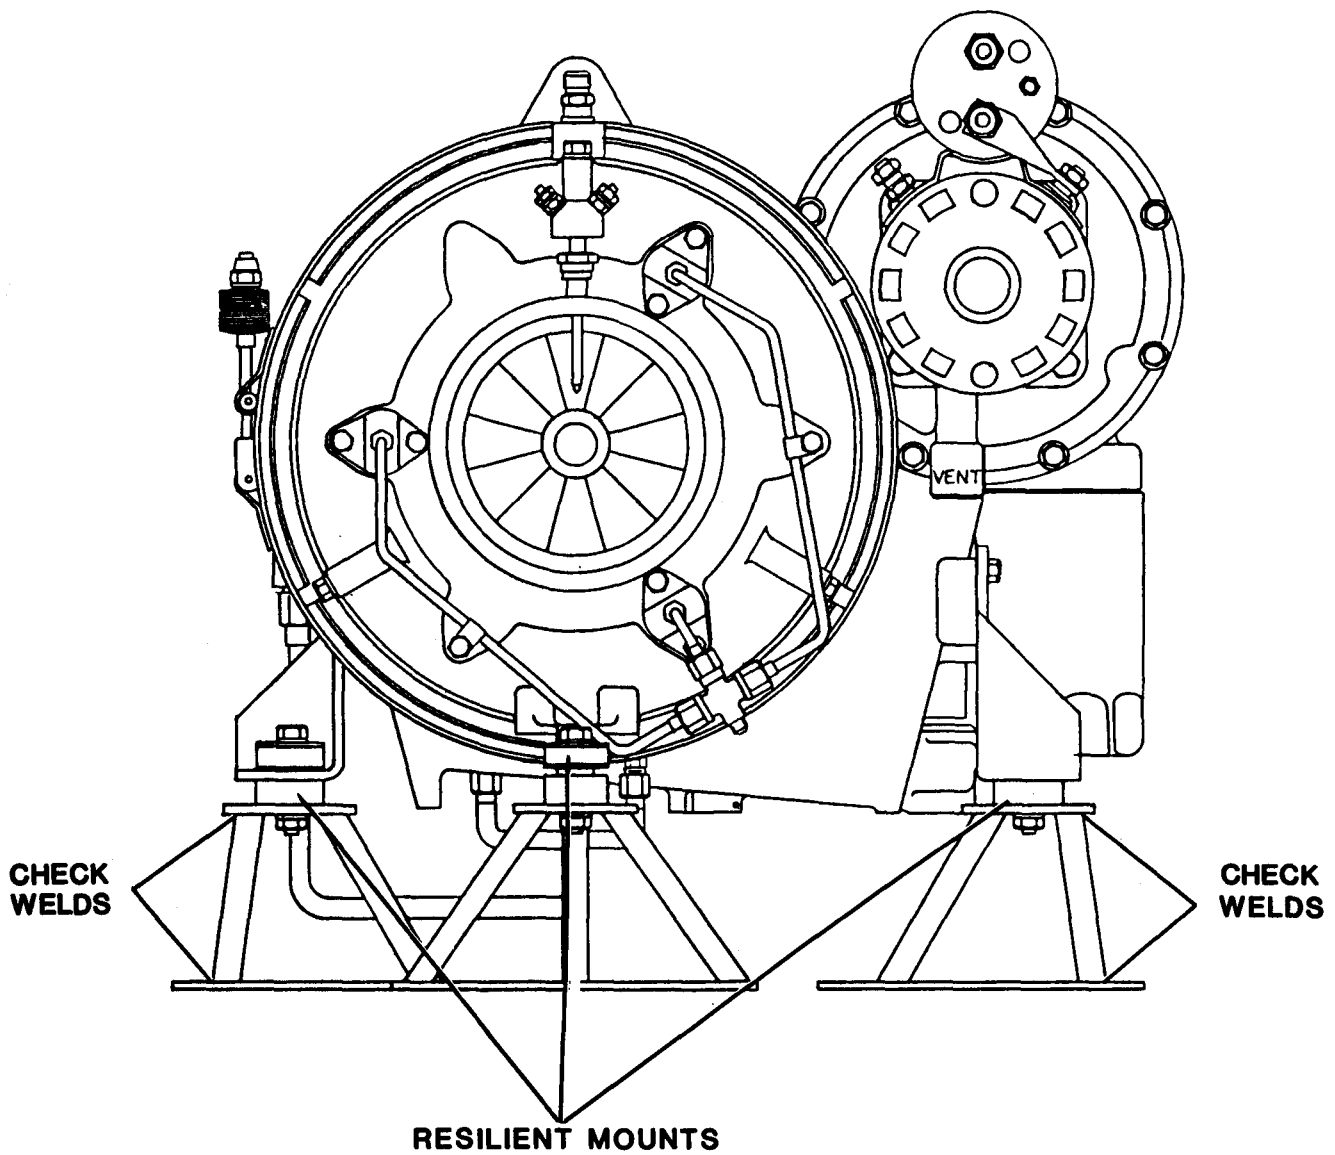

Figure 4-13. Engine Support Inspection
**4-24. ENGINE SUPPORT ASSEMBLY.** The engine support assembly (figure 4-13) consists of the engine mounting frame and resilient mounts. It provides support, thermal expansion, and vibration isolation for the gas turbine engine and gearbox. Use the following procedure to inspect the engine support assembly.